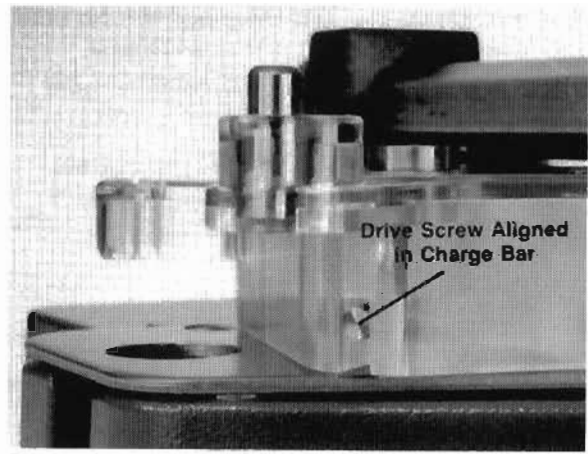

Fig. 64
**Figure 64** - Replace the charge bars on top of the measure plates. The drive screw flats should be aligned so as to fit into the charge bar slot. Replace the powder and shot hoppers. The charge bars should rotate freely along with the charge bar rods.